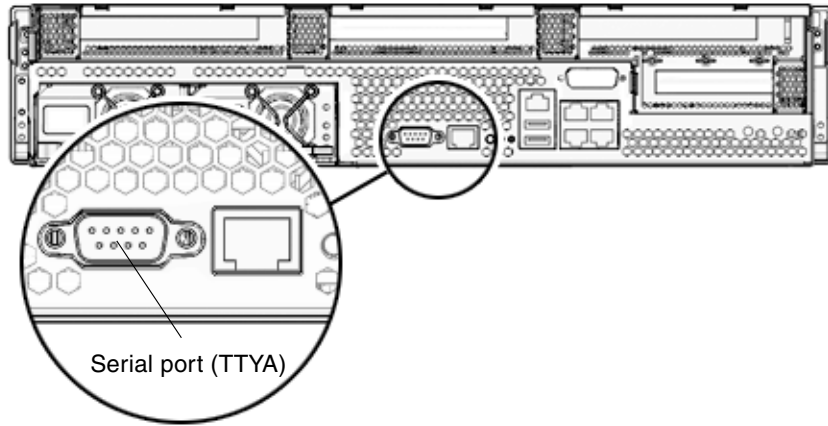

FIGURE 5-5 Serial Port
The TTYA serial port connector uses a DB-9 connector (item 1 in FIGURE 5-5). Use this port for general-purpose serial data transfers. This port is not connected to the SC serial management port.